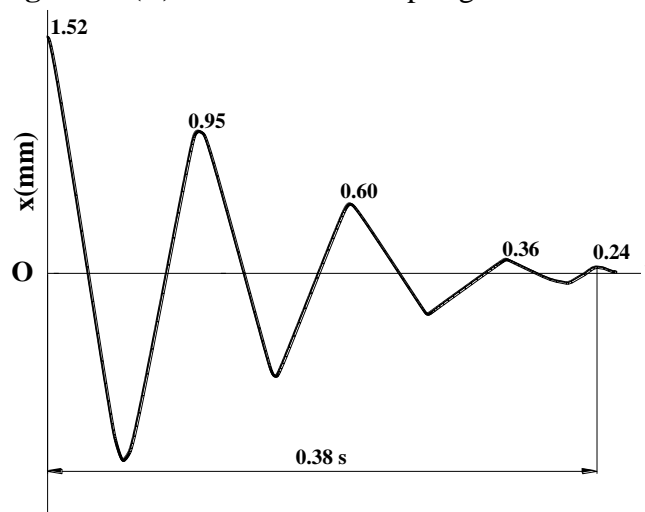

Figure P6(B).8
8. A machine has a mass of 200 kg. It is placed on an isolator and the corresponding free vibration records as shown in **Figure P6(B).8**. Determine its spring constant and damping coefficient.